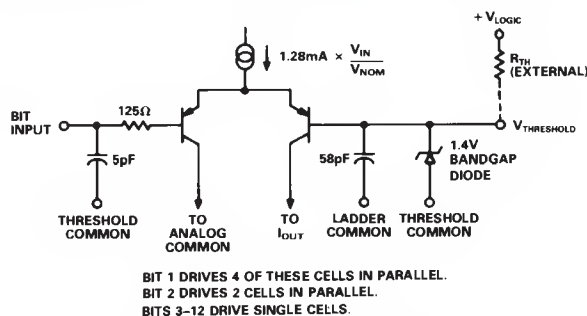

Figure 6. Equivalent Digital Input
(see Figure 6). The digital bit inputs operate with small input currents to easily interface to unbuffered CMOS logic. The digital input signals to the DAC should be isolated from the analog input and output as much as possible. To minimize undershoot, ringing, and digital feedthrough noise, the interconnect distance to the DAC inputs should be kept as short as possible. Termination resistors may improve performance if the digital lines become too long. The digital inputs should be free from large glitches and ringing and have 10% to 90% rise and fall times on the order of 5 ns.
**THCOM** - is the ground point for the bandgap diode that generates the threshold voltage. The current coming out of this node is the same as that flowing into  $V_{TH}$  plus a code dependent number of base currents (see Figure 6). It is possible to introduce an offset between THCOM and the system common, thereby offsetting the effective logic threshold and positive output compliance voltage.
**$V_{TH}$**  - as indicated earlier, if given sufficient positive bias current, this voltage will be 1.4 V above THCOM. The necessary bias current can readily be provided by a suitable resistor to any positive supply. As Figure 6 suggests, this node is directly coupled to the DAC output through several base to collector capacitances and hence, should be carefully decoupled to the analog ground.